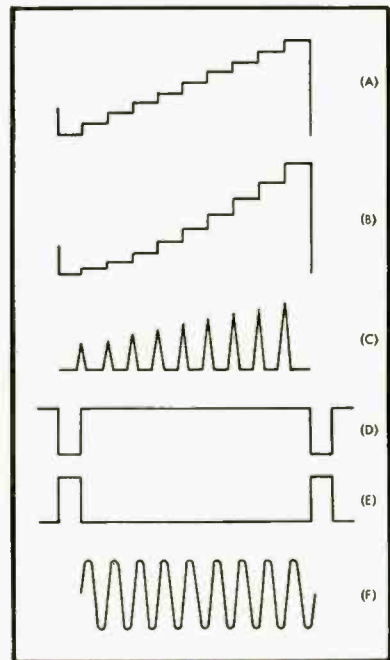

Fig. 2
The block diagram of Fig. 1 indicates how the nonlinearity "meter" works. The unit first generates a step or staircase wave such as that shown at (A) in Fig. 2. The entire step wave is repeated at an audio frequency which is low enough so that the amplifier to be tested can reproduce the straight sides of the steps. The step wave gives a series of amplitude increments which ideally are equal. The step-wave output of the tested amplifier may then be viewed on an oscilloscope. When the amplitude of each step on the oscilloscope is measured, it is easy to see where in the amplitude range nonlinearities occur. The nonlinear scope presentation of (B) in Fig. 2 is an example. Obviously the output amplitude increases for constant input amplitude increases is greater as the absolute amplitude becomes greater in the wave at (B)—or, to look at it another way, compression is taking place at lower amplitudes.
fore, the output step wave is differentiated, a process of passing the step wave through a high-pass filter, usually simply a series capacitor and a shunt resistor. If the cutoff frequency of the differentiator is made sufficiently high with respect to the repetition rate of the step wave, the voltage will fall back to the zero axis during each horizontal stair "tread" and the result will be a series of sharp spikes, each with an amplitude above the zero axis the same as that of the vertical part of the step which produced it. The result of the differentiation of a nonlinear staircase is shown at (C) in Fig. 2. The spike train can be amplified as much as is desired and since each spike is much larger than each stair rise it represents, measurements of the amplitude linearity can be made more easily and accurately. The ideal result is, of course, a straight line increase across the tips. A line outlining the tips at (C) in Fig. 2 would be curved and would show the distortion.